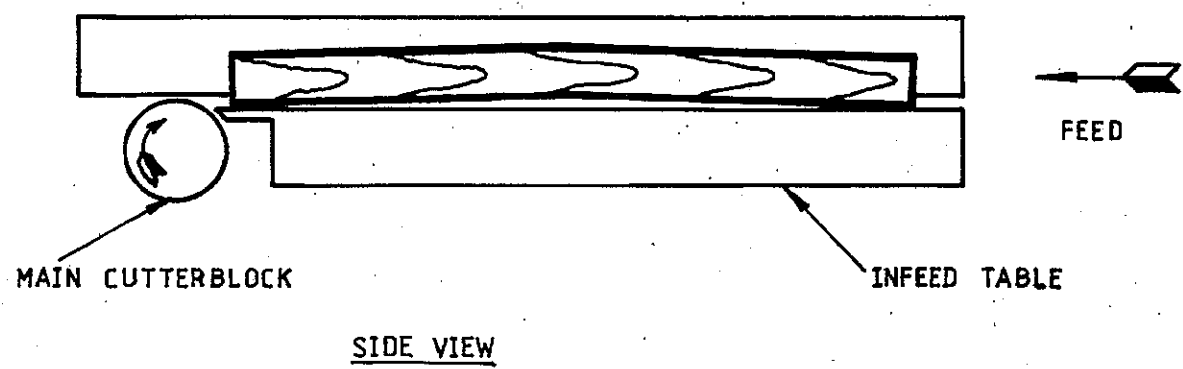
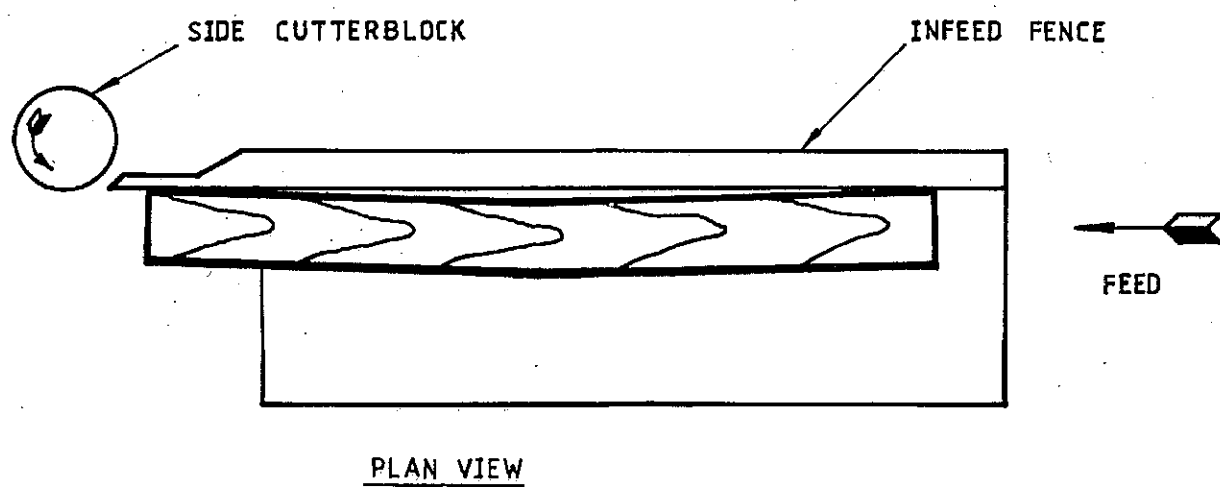

Fig 20
Fig 21
- 3) To obtain a perfectly flat surface, especially with warped stock. Check timber for being hollow or round, always place hollow side against infeed table and infeed fence, see FIG.20 and FIG.21.